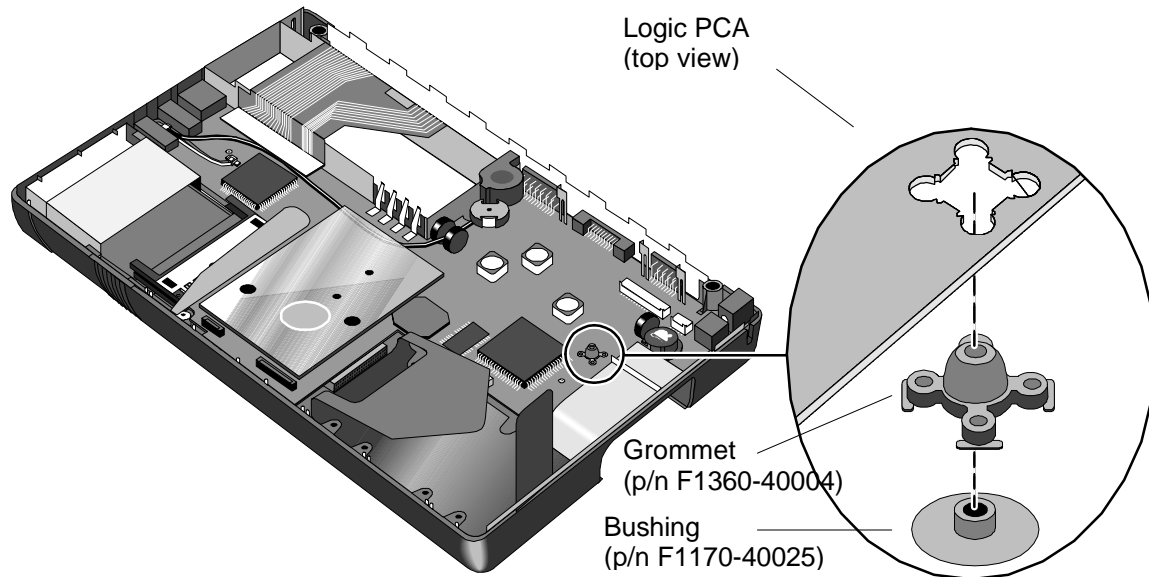

Figure 41 - Grommet and Bushing Placement
1. To replace the Logic PCA, reverse the above procedure. Ensure that the Grommet and Bushing are in place on the Logic PCA (see Figure 41).
2. Figure 41).